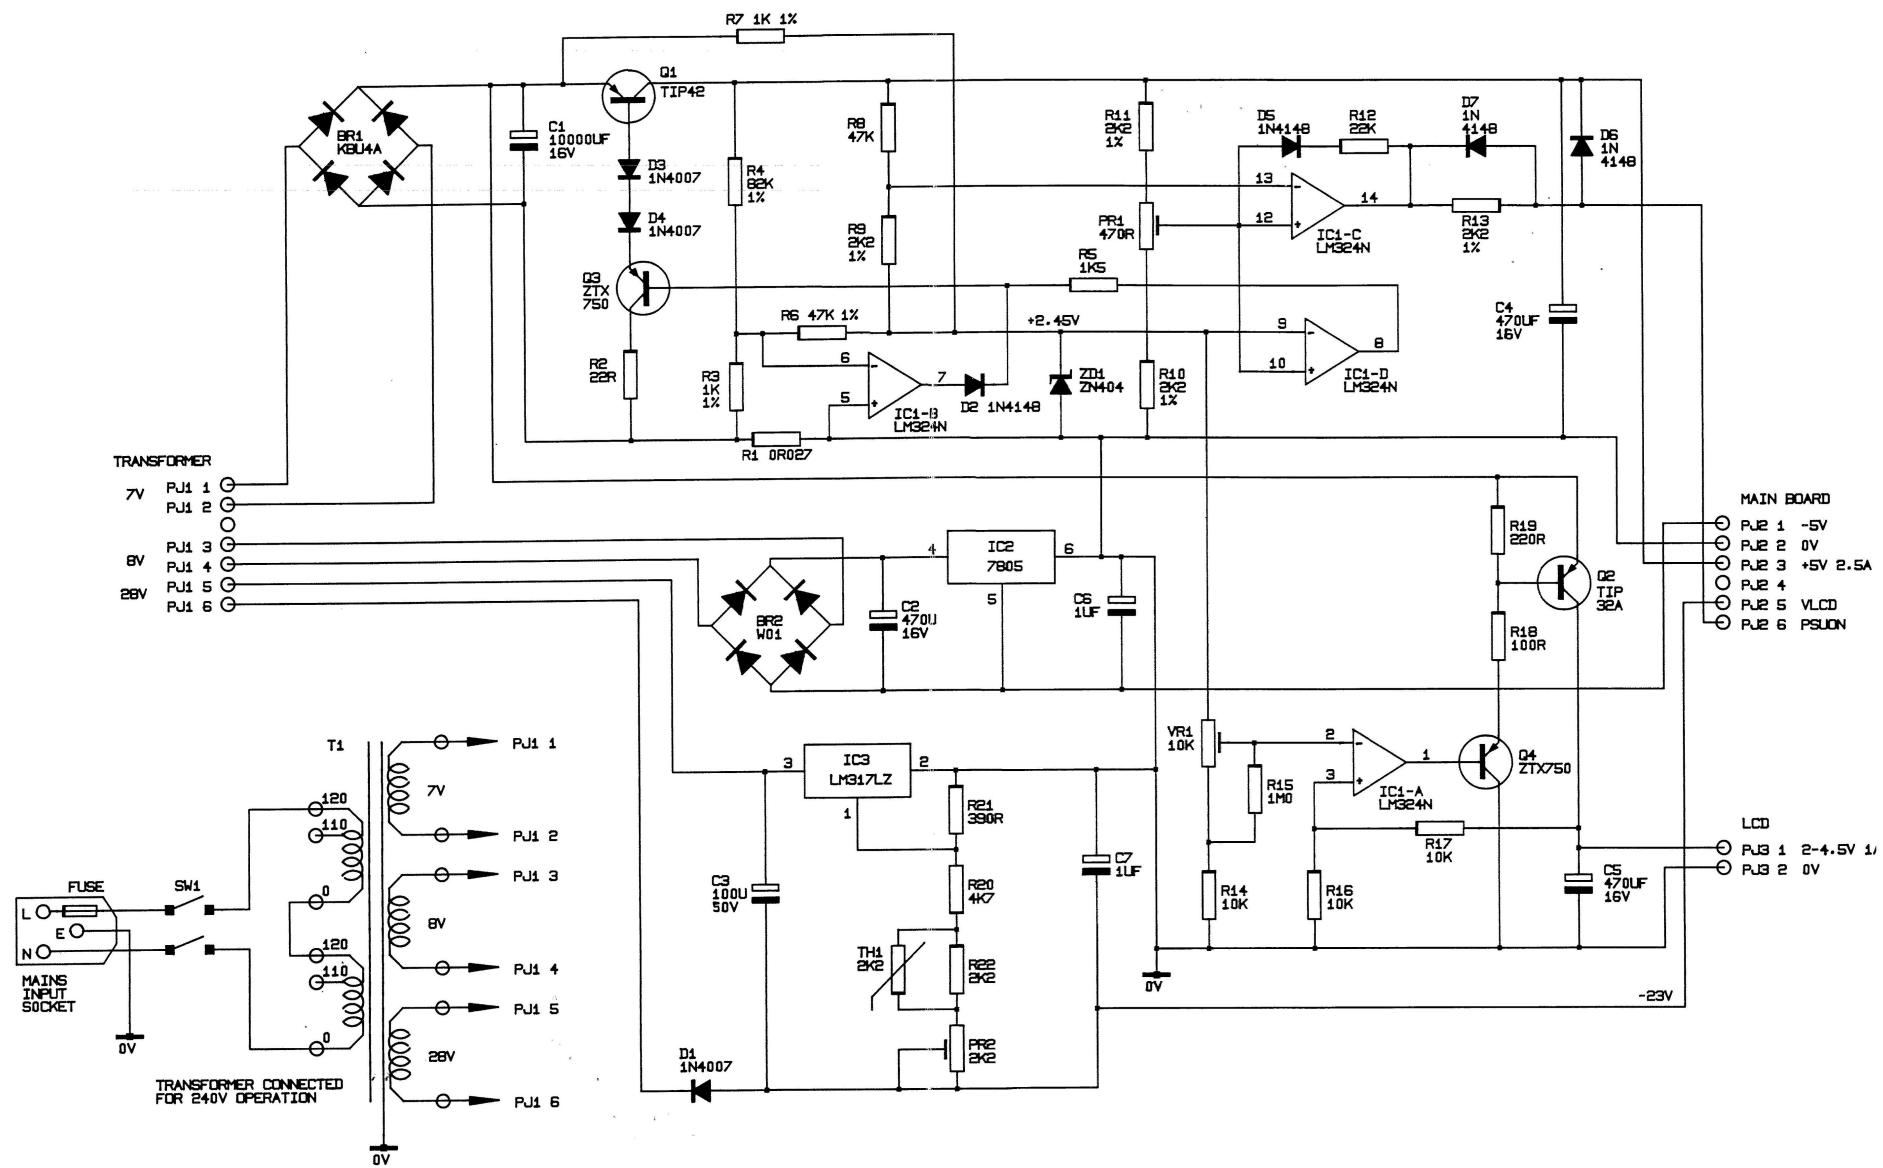

Fig 11 LA4800/3200 POWER SUPPLY
- Fig 11 LA4800/3200 POWER SUPPLY